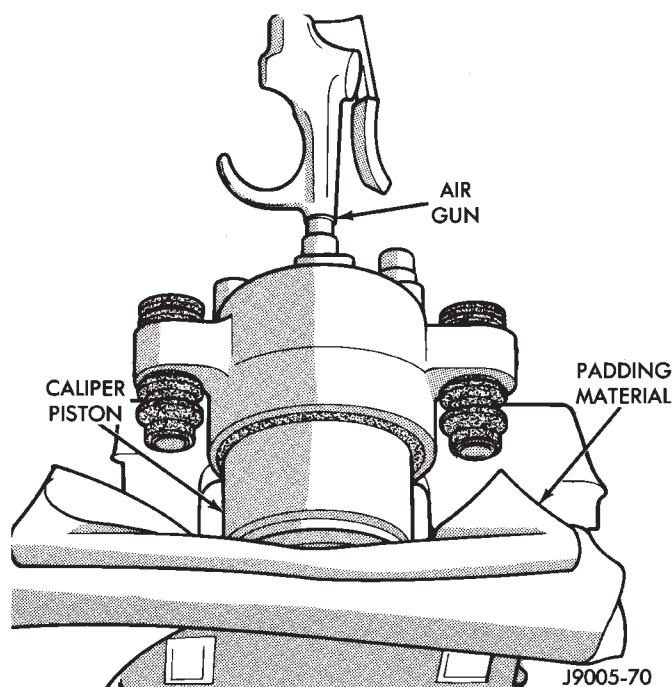

Fig. 65 Caliper Piston Removal
(4) Remove caliper piston with **short bursts** of low pressure compressed air. Direct air through fluid inlet port and ease piston out of bore (Fig. 65).